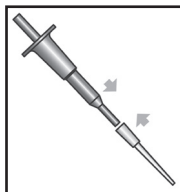

Figure 1
1. Place a pipette tip firmly onto the end of the MiniPet® (fig. 1).